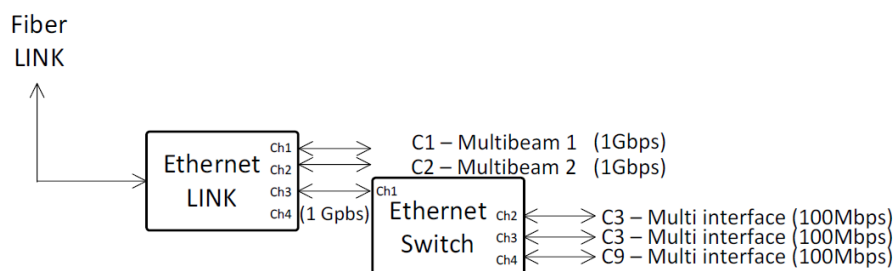

Figure 40. C3 Network Configuration at the wet-end
- Dual 100Mbit ethernet communications connected to a gigabit switch and output from a single gigabit connection topside. See Figure 40 below.